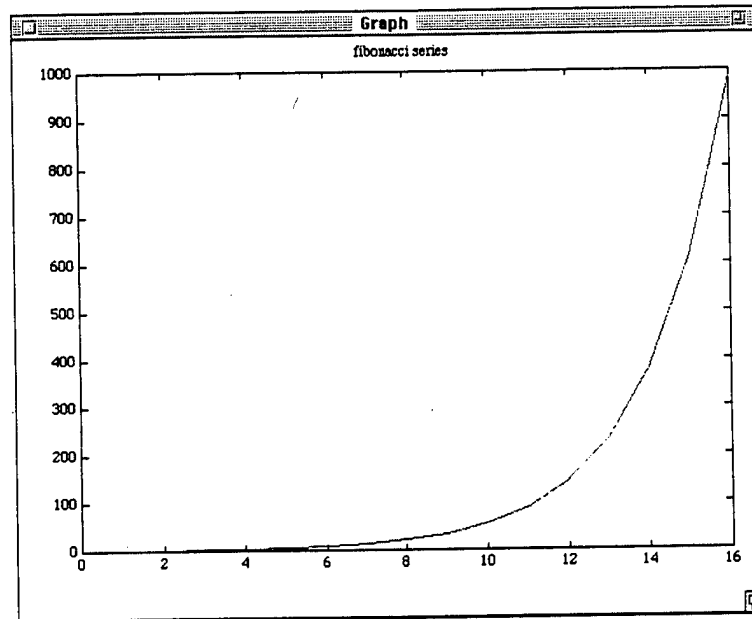

Figure 4.8: Output of script file "fibonacci"
5. Run the program by typing `>> fibonacci` from the command window. This results in a plot similar to that shown in Figure 4.8. Notice that you passed no parameters and the script file returned no parameters. However, typing `>> whos` now will show that two variables have been created in the workspace. *These variables are the same*